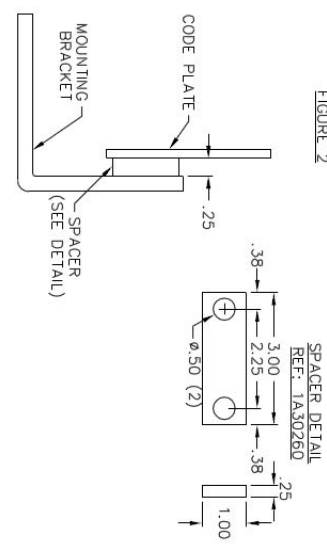

FIGURE 4
3. .25 THICK SPAGERS MUST BE PLACED BETWEEN CODE PLATE AND MOUNTING PLATE FOR 50 VCP-W350 AND 150 VCP-W1000, 150VCP-WG50 AND 150VCP-WG63 ONLY. (SEE FIGURE 4).